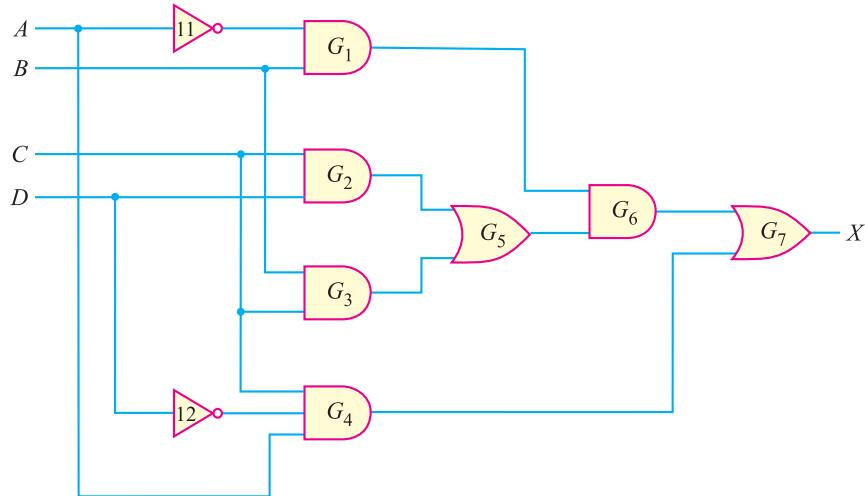
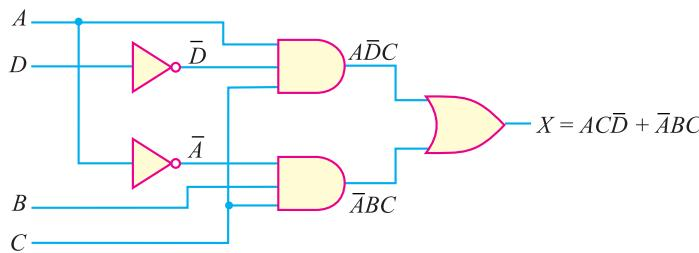

Fig. 26.53
Fig. 26.54
**Illustration.** Fig. 26.53 shows the logic circuit. The Boolean expression for this circuit is
Implementing this equation (*i.e.*  $X = AC\bar{D} + \bar{A}BC$ ) into the logic circuit, it only requires *two three-input AND gates, two inverters and one two-input OR gate* as shown in Fig. 26.54. Note that this minimised circuit is equivalent to the original circuit of Fig. 26.53 but only requires five gates (instead of nine).